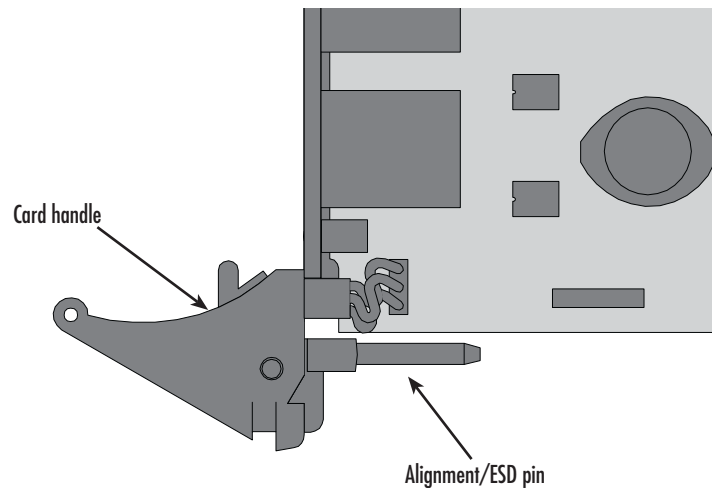

Figure 6. Alignment/ESD pin and card handle
3. Gently press the blade into the chassis until the alignment/ESD pin (see figure 6) engages the chassis. When the blade is fully seated, the red buttons in the handles click up automatically, thus locking the handle and activating the switch (closed position). The click of the button gives a visual and audible confirmation that the board is fully seated.